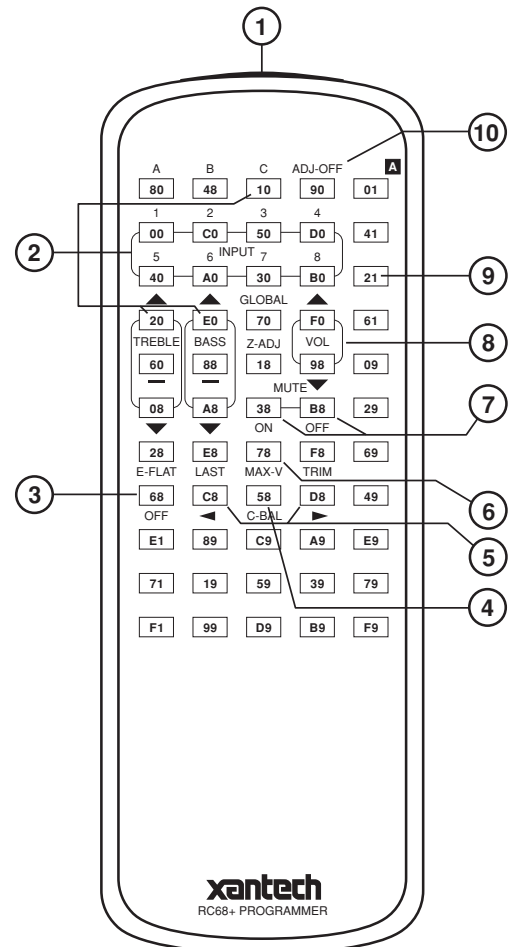

Fig. 4 The RC68+ Programmer
- If mounted in an equipment cabinet or other confining location, allow at least 2 inches of space above the top cover (see **Fig. 4**). Be sure there are large openings in the shelf below the unit and in the cabinet to allow the entry of cool air and the escape of warm air.
7. After the Code Groups are set up, "teach" volume and other commands from the RC68+ Programmer (**Fig. 4**) into learning remote controls (and the keypads) dedicated to each room. Be sure to set the RC68+ to the specific Code Group Number that corresponds to the ones chosen for each of the amplifier pairs, during this "teaching" process.
5. The desired volume and other commands from the RC68+ Programmer (see **Fig. 4**) need to be "taught" into learning remote controls (such as the Xantech URC types) and Smart Pads used in the system, either directly or by using Dragon Drop IR™.